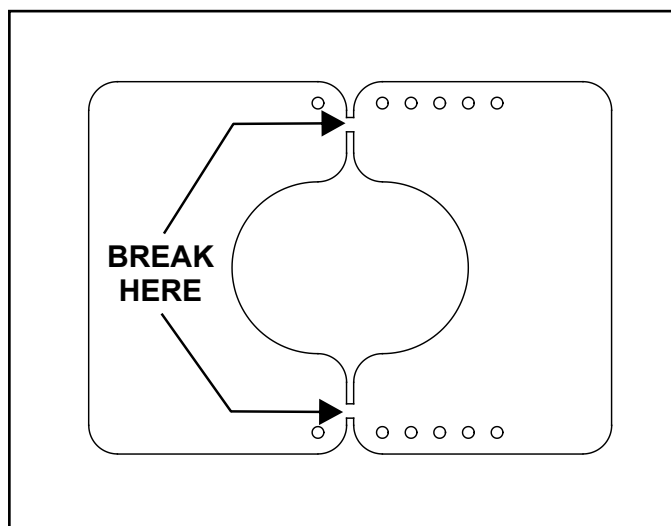

Figure 4.10 Break the Exhaust Restrictor
2. Break the flue restrictor into two pieces. Do this by bending the part back and forth until it breaks. See Figure 4.10.
1. Break the flue restrictor into two pieces. Do this by bending the part back and forth until it breaks. See Figure 4.10.